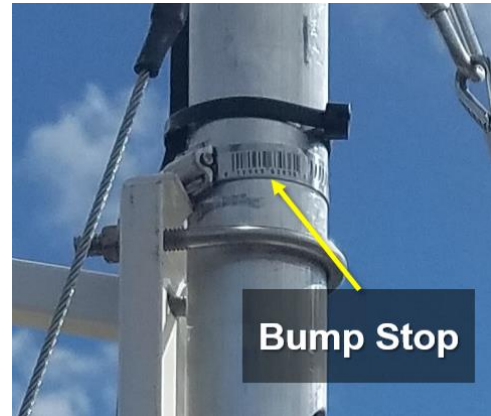

Figure 13. Bump Stop on Met Mast
- g. Check hose clamp attached to the mast (see Figure 13). This works as a bump stop above the boom. A bump stop enables reinstallation to a fixed height. This may or may not exist at all AIS Lake Buoy sites. AIS Lake Buoy sites are welcome to install one of their own to know where the fixture must stop on the Met Mast.